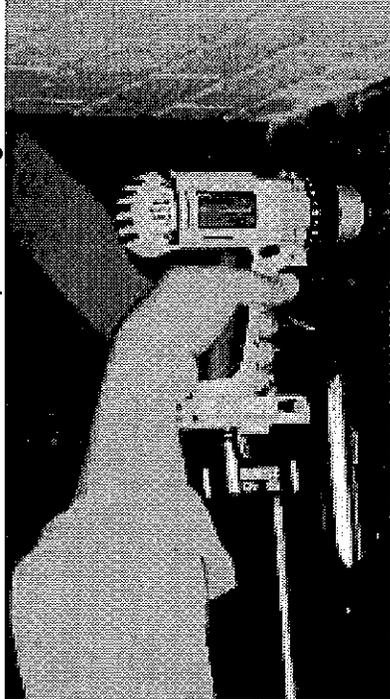

Figure 5.8 Unscrewing Hearth Pan
- Remove four screws in burner pan. See Figure 5.8.